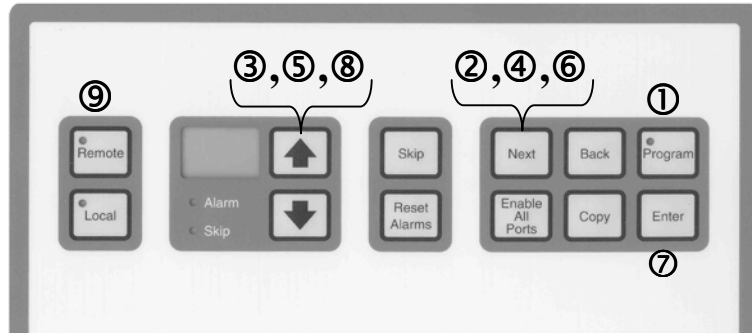

Figure 8. Manifold Controller Scan Step Programming
1. At the Manifold Controller (Figure 8), press “Program” and verify that the 2 digit LED blinks the **scan step** number (00) briefly and then displays the **port number** (01). This indicates that the first **scan step** in the sampling routine will be **port 1**.
2. Press “Next” to save the programmed scan step and move to the next scan step. Verify the 2 digit LED blinks the next **scan step** number (01) briefly and then displays the next **port** number. The port number displayed is from the factory defaults or from a previous program.
3. Press ↑ repeatedly to display “07” in the 2 digit LED display. This sets the second **scan step** (01) to **port 7**.
4. Press “Next” and verify the display blinks the next **scan step** (02) and displays the **port number**.